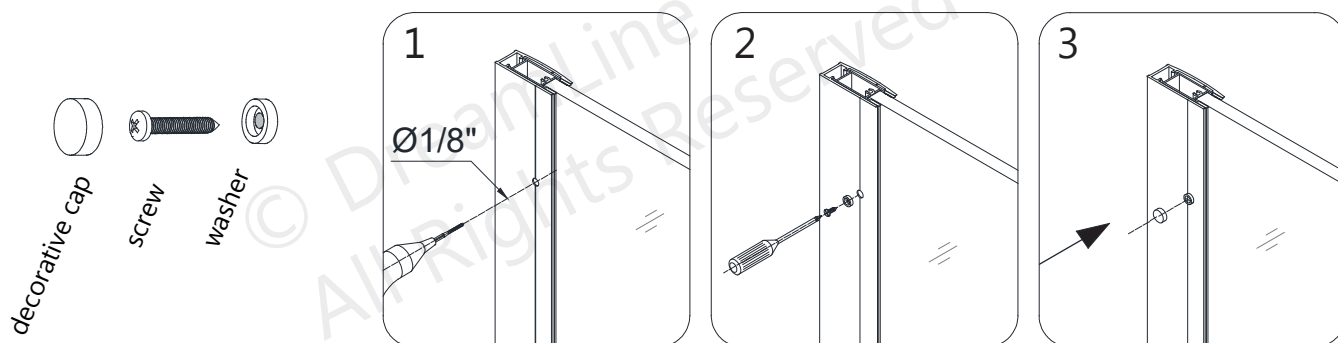

Fig 8
8. Recheck the alignment and spacing of the **Door Glass (#11)** and **Panel Glass (#11)** and test the operation of the Door. After final adjustments of the **Panel Glass (#11)** drill holes into the **Glass Profile (#10)** through the predrilled holes in the **Wall Profile (#09)** using an **Ø1/8"** drill bit. Use the **Pan Head Screws ST4.2×10 (#14)** and **Washers (#17)** to attach the **Wall Profile (#09)** to the **Glass Profile (#10)**. Cover the exposed screw heads with **Decorative Screw Cover (#17)**. (**Fig 8**)